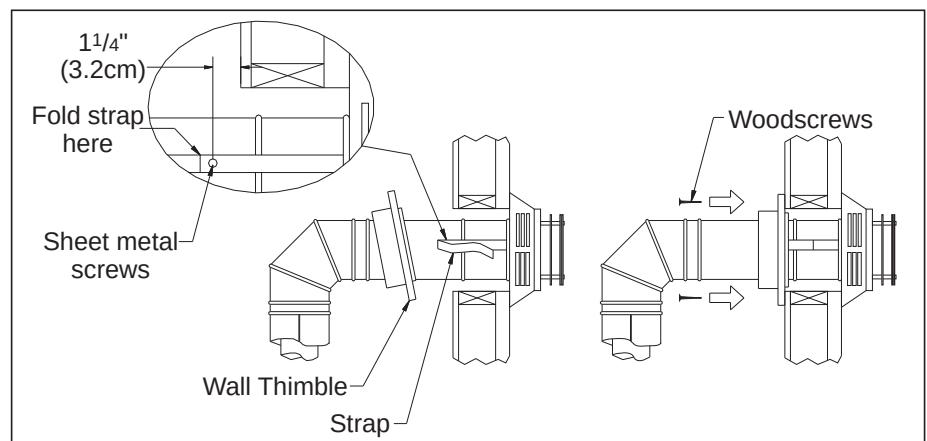

Figure 39: Installing Decorative Wall Thimble.
6. Slide the appliance and vent assembly towards the wall, carefully inserting the vent pipe into the cap assembly. It is important that the vent pipe extend into the vent cap a sufficient distance with a minimum of 1¼" (3.2cm) overlap. Secure the connection between the vent cap pipe and the vent cap by attaching the two sheet metal straps extending from the vent cap assembly into the outer wall of the vent pipe. Use the two sheet metal screws provided to connect the straps to the vent pipe. Bend any remaining portion of the sheet metal straps back towards the vent cap, so the decorative wall thimble will conceal it (see Figure 39).